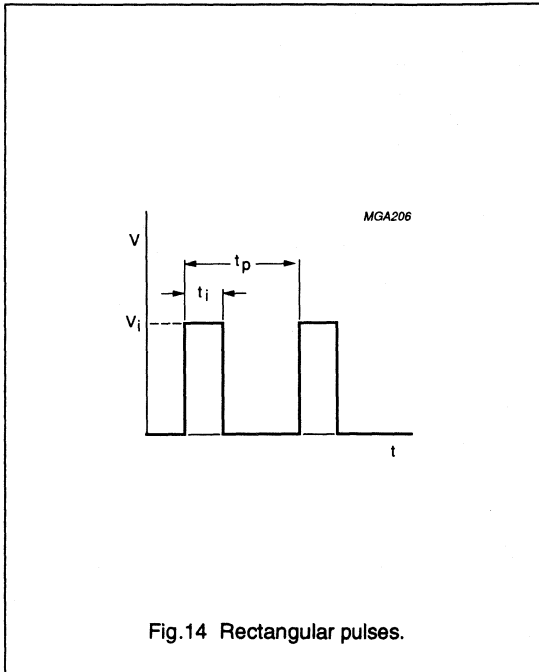

Fig. 14 Rectangular pulses.
- V_i = applied peak pulse voltage (Figs 14 and 15)